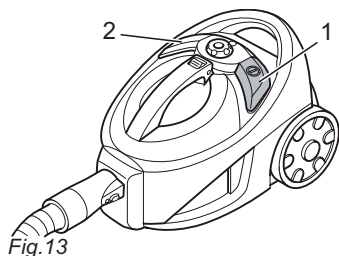

Fig.13
1. Switch off the cylinder vacuum cleaner using the on/off switch (Fig. 13/1) and pull the plug out of the socket.
3. Press the cable retract button (Fig. 13/2) to pull in the power cable.